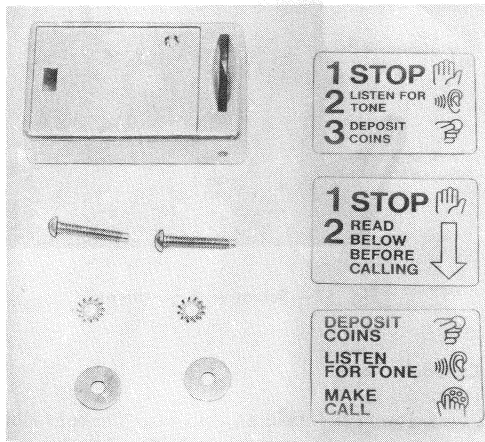

Fig. 55—D-180848 Kit of Parts (Magnetic Coin Stop)
**5.37** A D-180848 Kit of Parts (Fig. 55) is available to install on a 70A- or 71A-type coin cover unit. (It is not designed for a panel set).